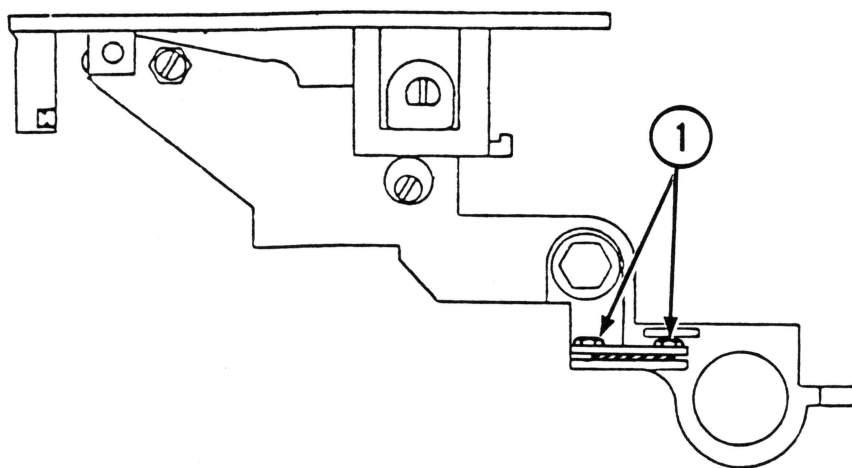

FIGURE 9
9. With a 3/16 inch wrench or a flat blade screwdriver, loosen the two screws holding the drive belt to the right side of the carriage assembly (see Figure 9, #1). Pull the belt out of the bracket. (Don't remove the left side yet: that will be easier later (step 14).)